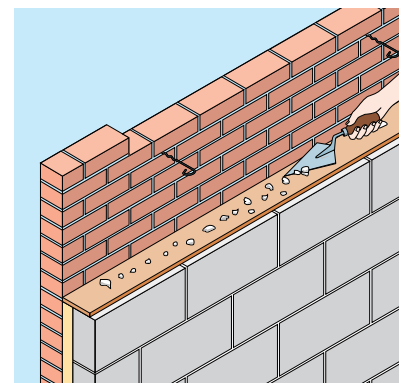
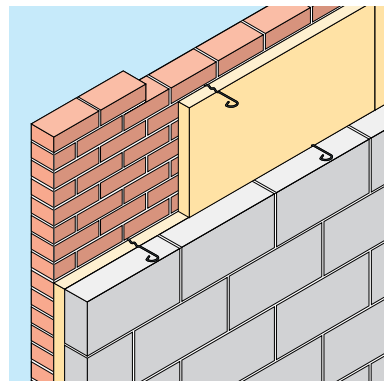
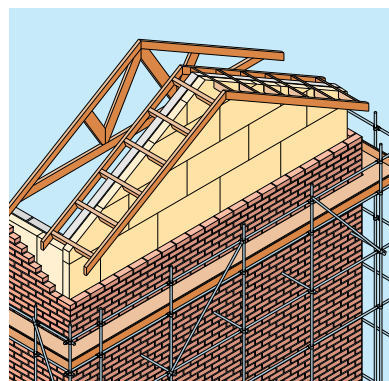

Figure 3
Figure 4
Figure 6 Installation of Batts in gable end wall
- 4 Before installation of each course of batts, excess mortar must be removed from the inside face of the leading leaf and mortar droppings cleaned from the exposed edges of the batts. This is made easier by the use of a cavity board (Figure 3). This sequence should be maintained progressively up to wallplate (or cavity tray) level. It is important that the insulation is carried to the highest level possible in either case (Figure 6).
- 5 Fit Rockwool Cavity by compressing between the two rows of wall ties to form a clean and tight butt jointed course (Figure 4). Wall tie drips should be located centrally in the Batts (Figure 3). Ties must be inclined downwards towards the outer leaf.
- 9 Repeat this sequence to the top of the wall (see Fig 6). If not, protect the top of the batts with a cavity tray.